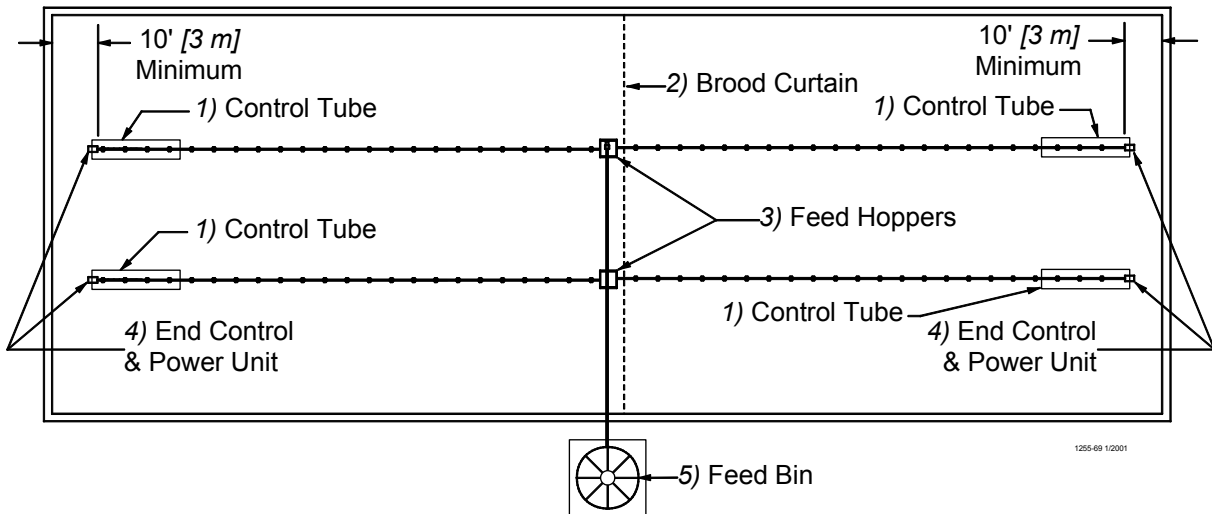

Figure 2. Component location diagram for systems over 400 feet [122 m]. (Top View).
B. Systems with line lengths over 400' [122 m] should be split in the center, as shown in Figure 2. This will reduce auger running time and eliminate the need for Mid-Line Controls for partial house brooding.